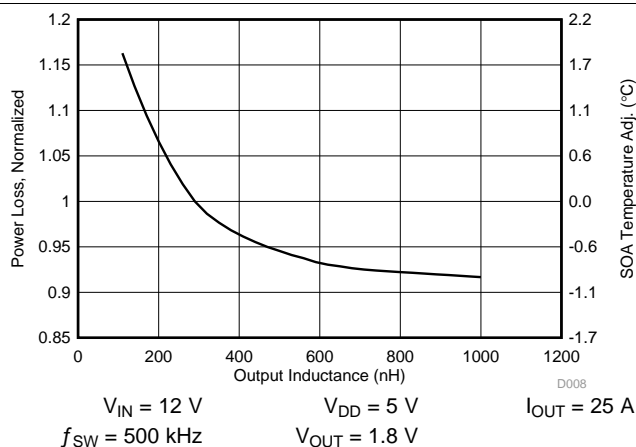

Figure 11. Normalized Power Loss vs Output Inductance
- Normalized Power Loss for output inductor ≈ 1.07 (Figure 11)
- SOA adjustment for output inductor $\approx 0.74^\circ\text{C}$ (Figure 11)